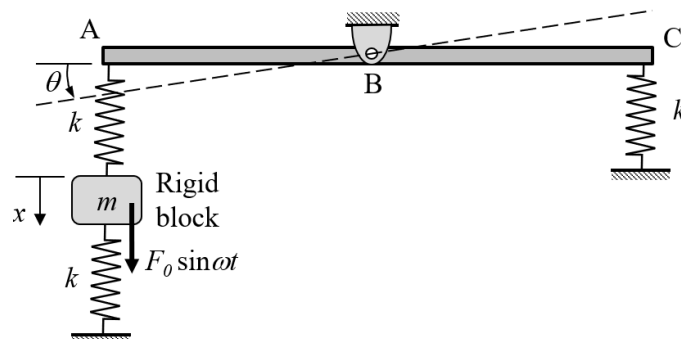

Figure 5
4. Figure 5 shows a 2-DOF system wherein a rigid rod ABC of length L and mass M is hinged at B and connected to two springs at points A and C. All the three springs shown have the same stiffness constant k . The rigid block has a mass of m and is subjected to a harmonic excitation force $F_0 \sin \omega t$ as shown. The angular displacement θ of the rod and the linear displacement x of the block are measured with respect to their respective static equilibrium positions. Consider small displacements so that linear vibration theory can be applied.